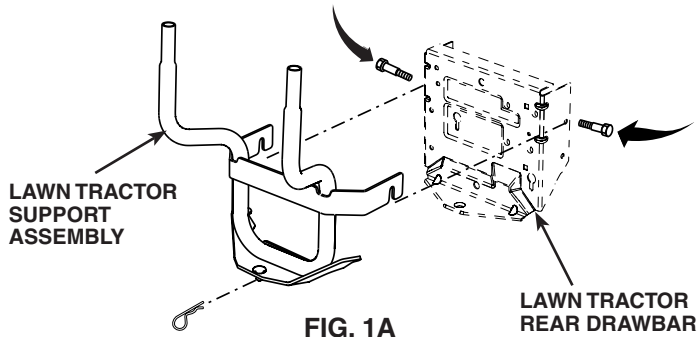

FIG. 1A
Lawn Tractors have a vertical rear drawbar. Use the support assembly shown and the two (2) shoulder bolts supplied (See Figs. 1A & 1B).
Discard the Lawn Tractor support assembly and shoulder bolts shown above in Fig. 1A.